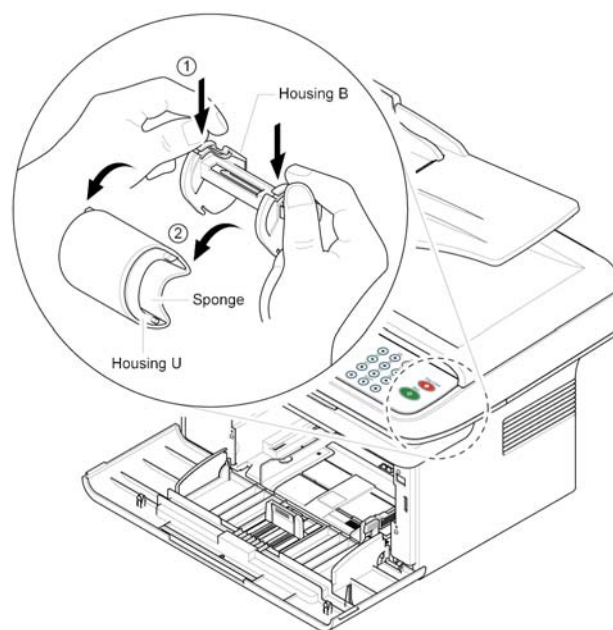

Figure 1
2. To exchange the pick up sponge, pull apart pick up housing U while pressing the hooks on both sides of pick up Housing B, Figure 1.